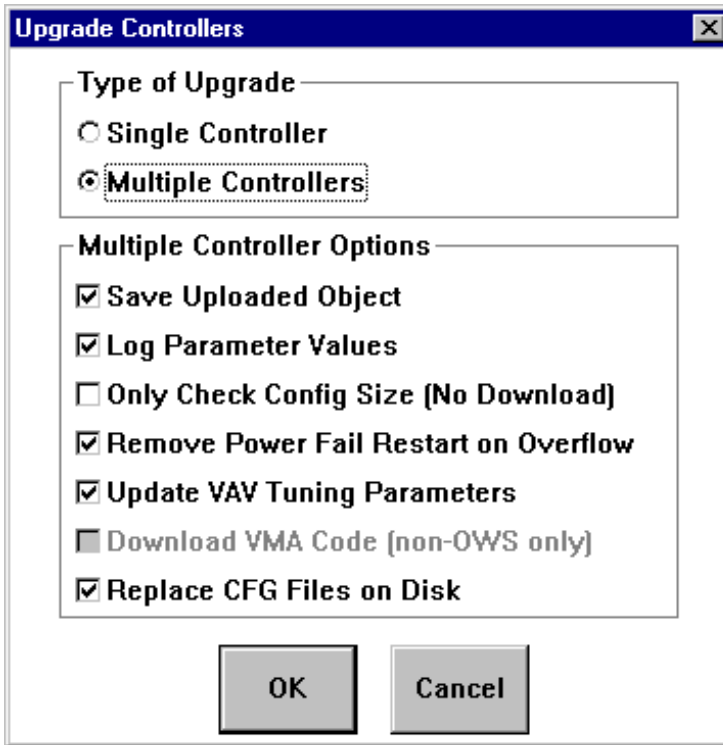

Figure 17-7: Upgrade Multiple Controllers Dialog Box
1. On the Upload menu, click Upgrade Controllers. The Upgrade Controllers dialog box appears (Figure 17-7).